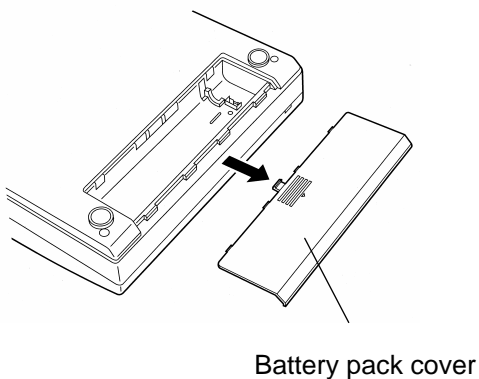

Figure 1
1. Turn the printer over and open the battery cover as shown in Figure 1.